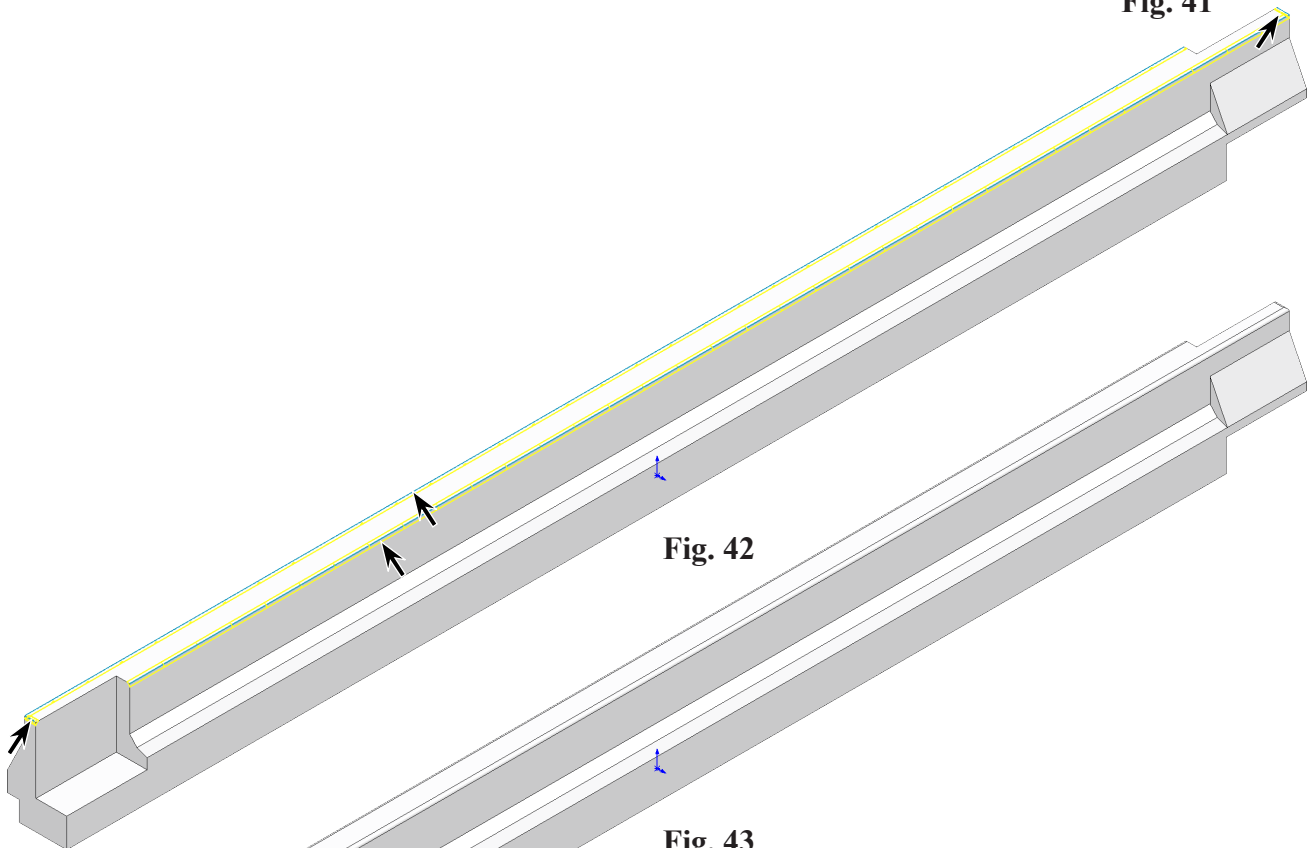

Fig. 42
click top side edges and end edges (4), Fig. 42